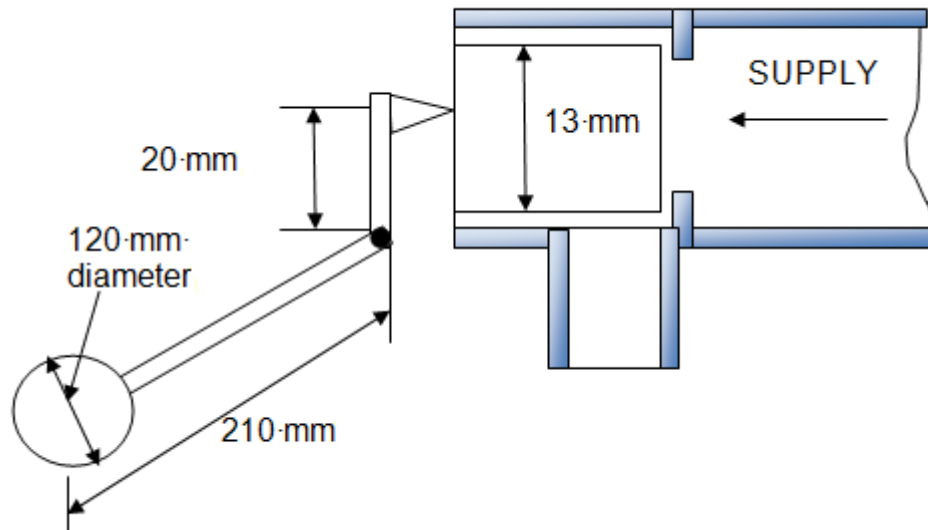

FIGURE 3
- 3.2 The piston of the ball valve as shown in FIGURE 3, has an effective diameter of 13 mm. The valve only closes when a quarter of the volume of the ball is submerged in water.